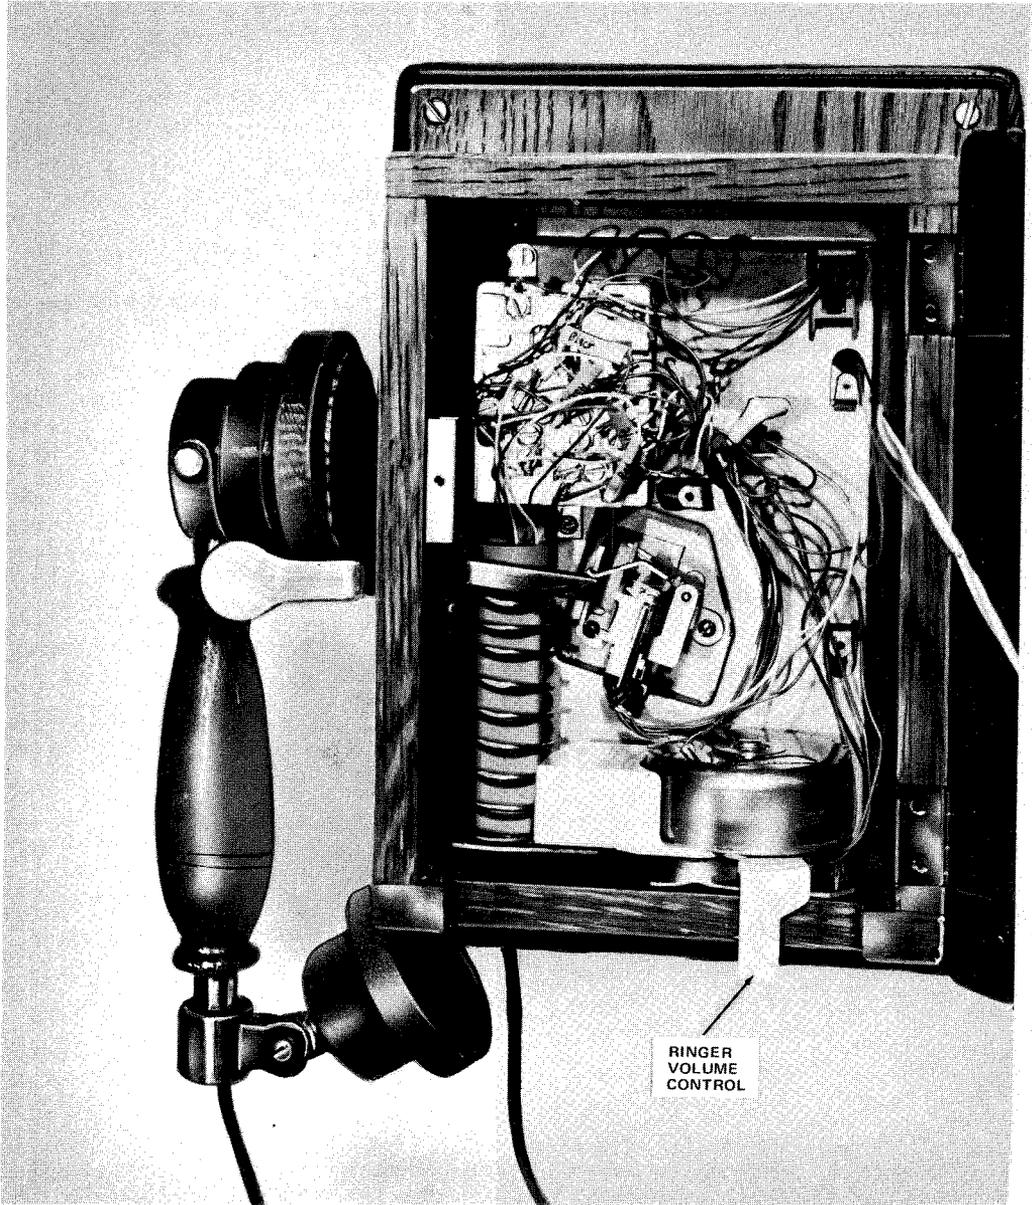

Fig. 3—951A1-03 Telephone Set With Front Panel Door Open
2.05 The ringer volume can be adjusted by moving the ringer volume control lever protruding from the bottom front of the set (Fig. 3).
screw counterclockwise until the front hinged panel of the housing is released and can be opened (Fig. 3).